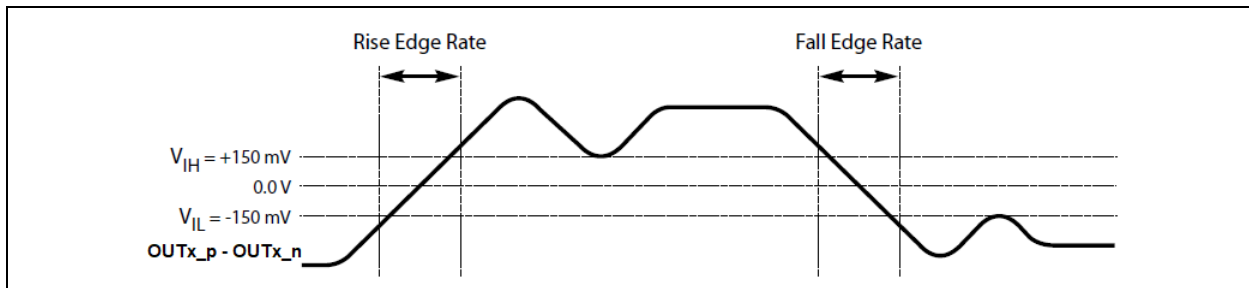

FIGURE 1-5: Differential Measurement Points for Rise and Fall Time.
- 2: Measured from -150 mV to $+150$ mV on the differential waveform (derived from $OUTx_p$ to $OUTx_n$). The signal must be monotonic through the measurement region for rise and fall time. The 300 mV measurement window is centered on the differential zero crossing. See Figure 1-5.